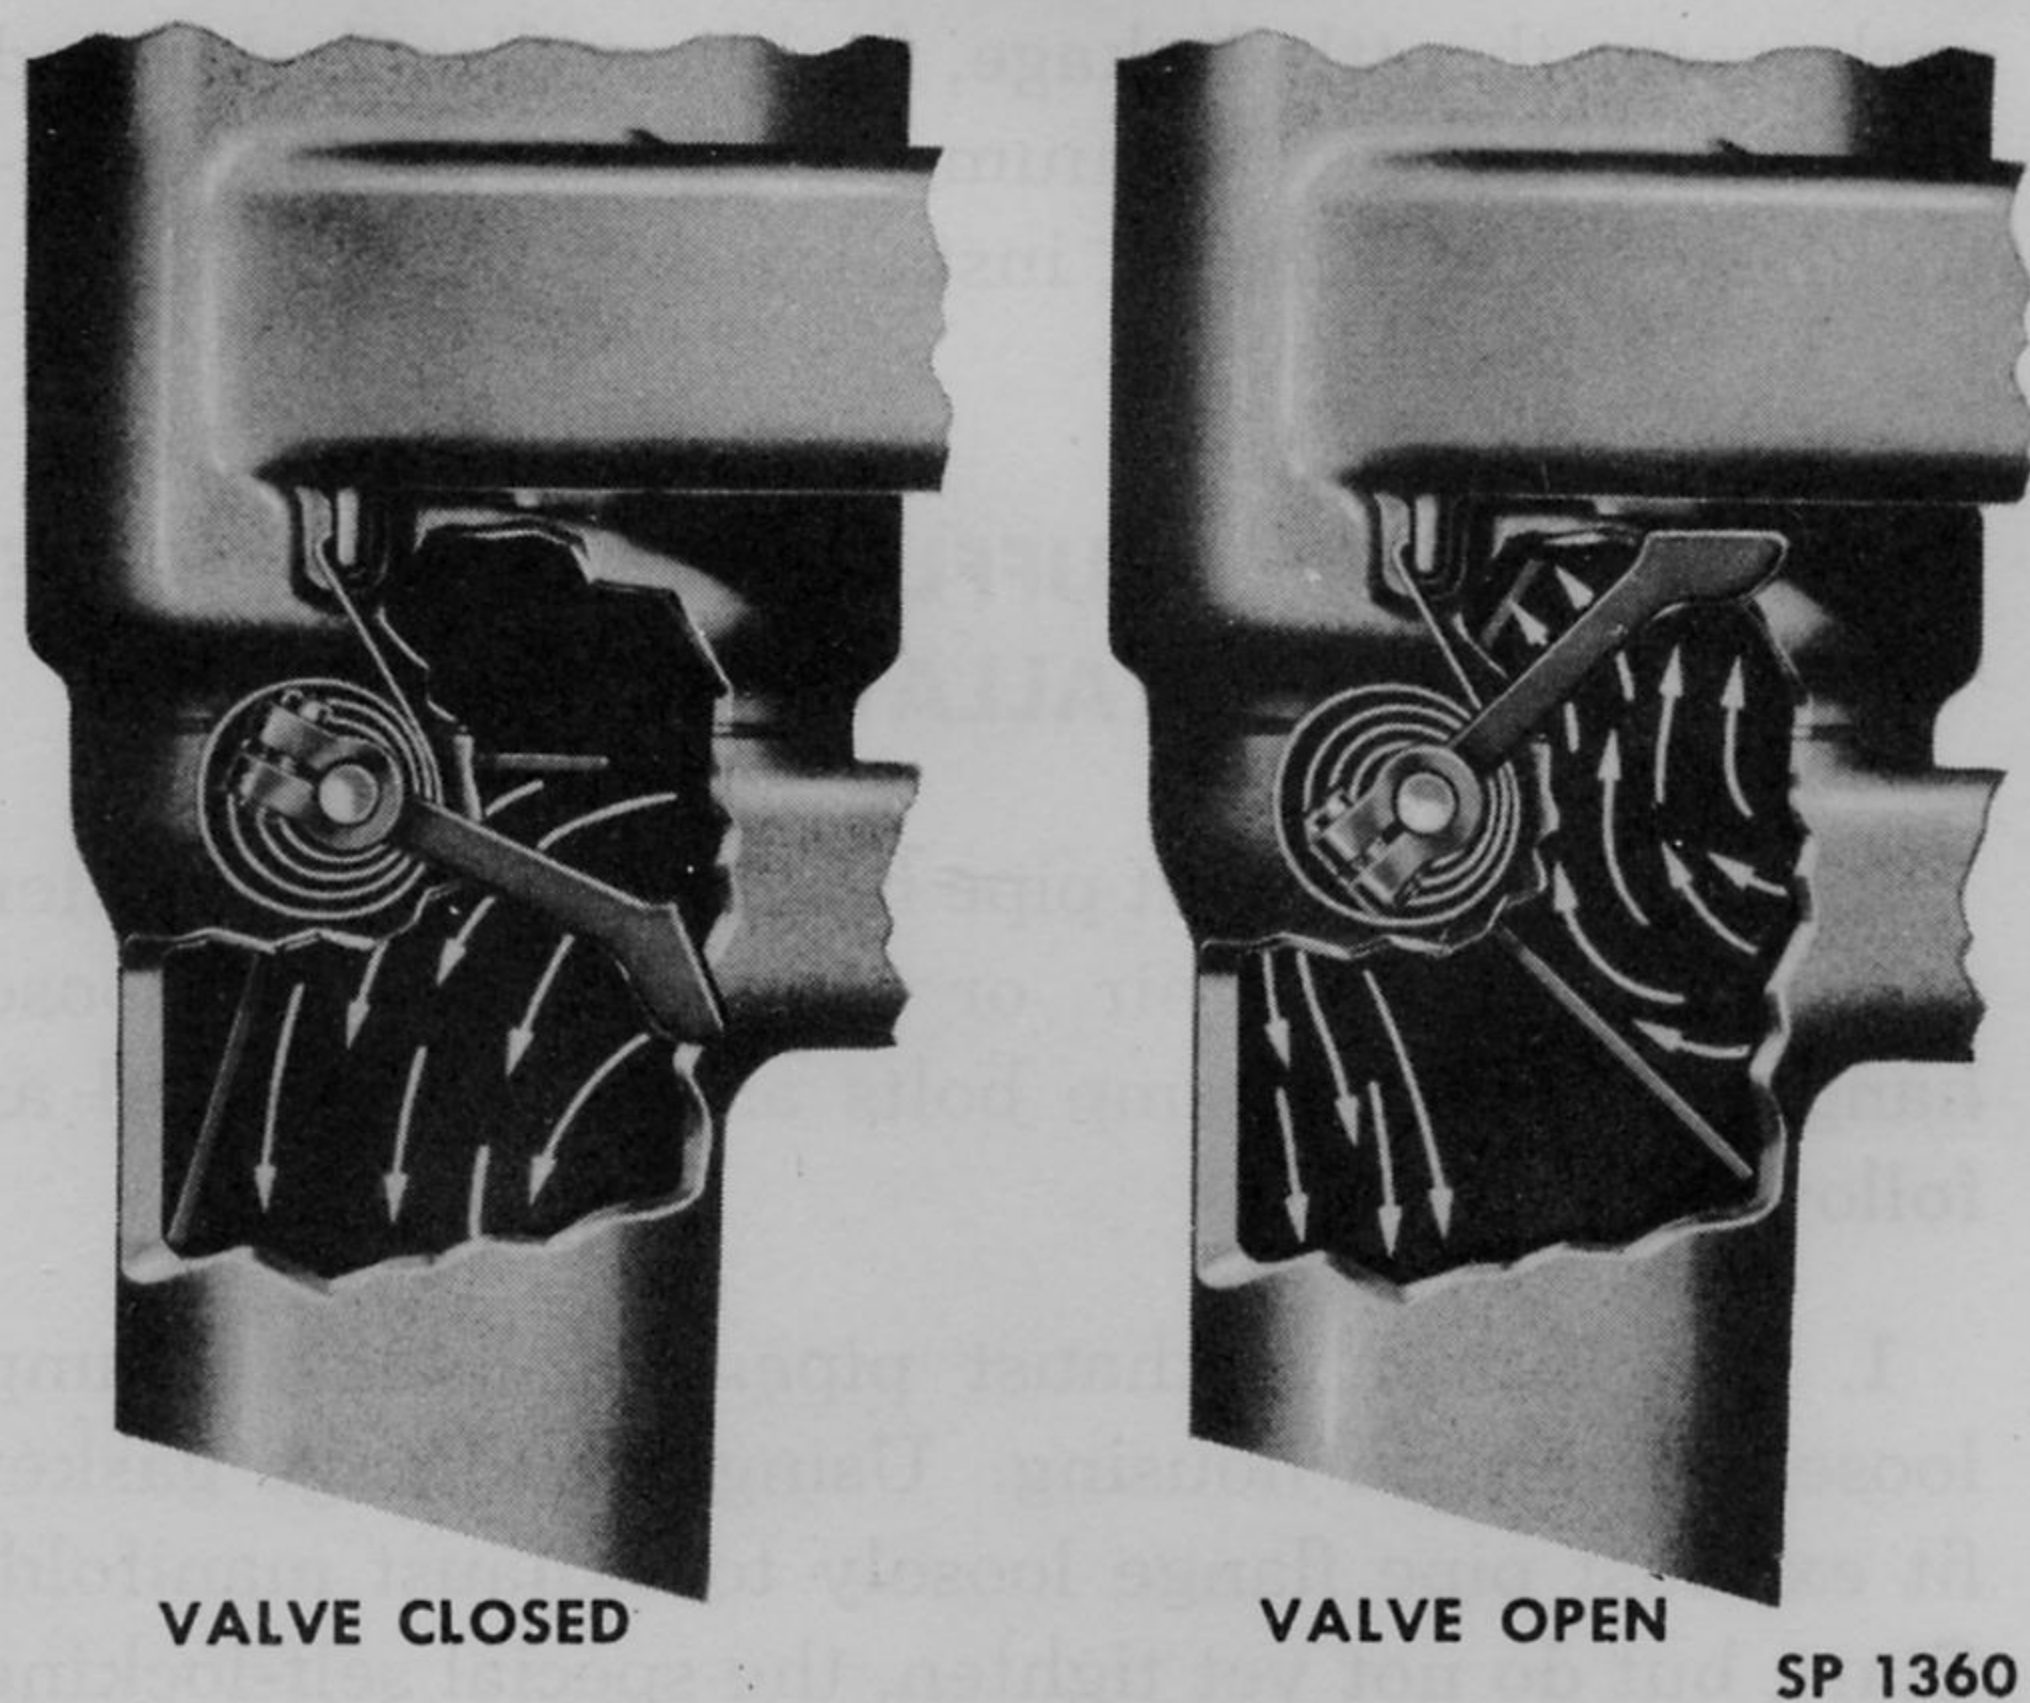

Fig. 152—Intake Manifold Heat Control Operation
d. MANIFOLD HEAT CONTROL. When the cold engine is started, the heat control valve directs exhaust gases through a chamber (Fig. 152) surrounding a section of the intake manifold to aid fuel vaporization. As the engine warms up and too high a mixture temperature might reduce engine power, a bi-metallic element sensitive to exhaust manifold temperature (Fig. 151) moves the heat control valve automatically toward closed position. With manifold temperature below 70°F. the counterweight holds the valve open.